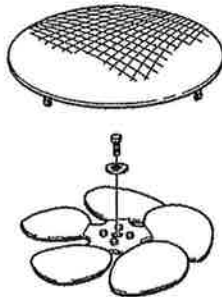

Figure 5a. Impeller wheel COOL 100 series
- 3 **Figure 5a. COOL 100 series.**